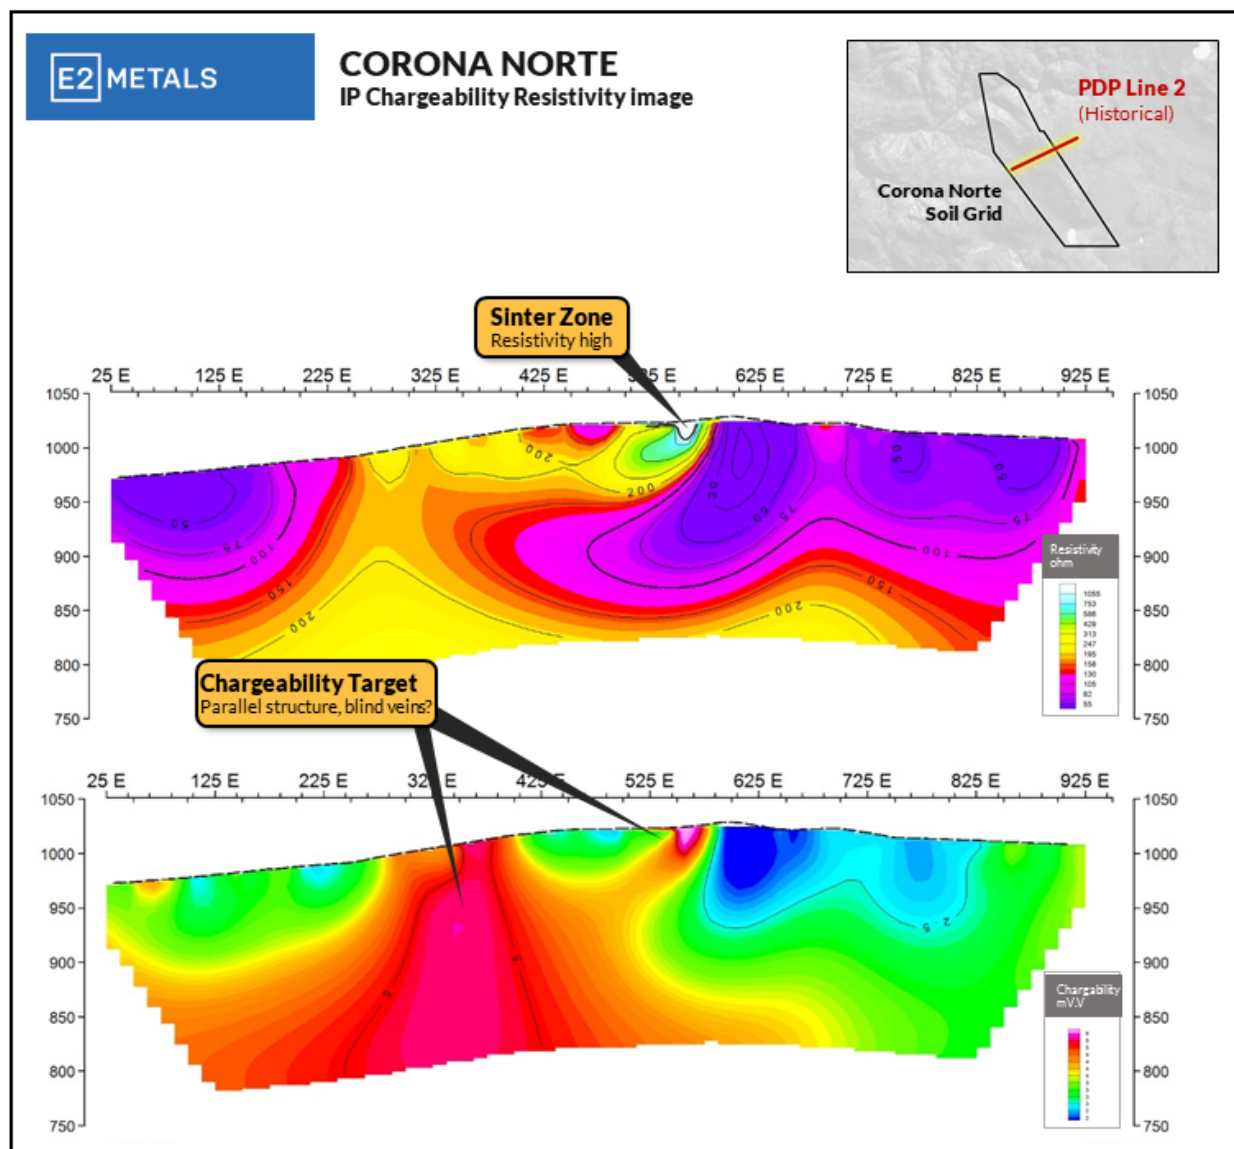

Figure 5: Corona Norte Pole-Dipole IP inversions and chargeability target
The soil grid was completed to validate a prominent chargeability anomaly in historical geophysical data (Figure 5). The Induced Polarisation (IP) survey was completed by the project vendors Circum Pacific Pty Ltd (see *ASX Announcement, 20 December 2018, E2 Metals to Acquire a Portfolio of Gold & Silver Projects*) during the first half of 2018. The work included several reconnaissance pole-dipole IP lines (PDP Lines) across the sinter and host structure to determine if targets exist at depth. The recent soil data confirms the chargeability anomaly on PDP Line 2 to be associated with widespread silver and arsenic, strengthening the interpretation of a prospective target for high-grade mineralised veins at depth. This is